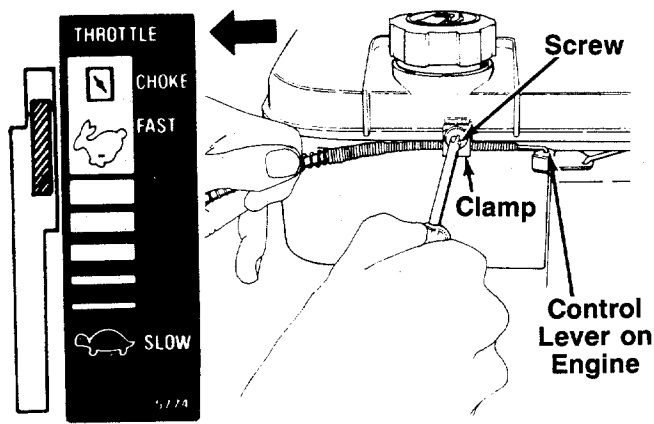

FIGURE 6C.—Models 414R & 424R
1. Push the throttle control lever on the handle all the way forward to CHOKE, then back it off **two "clicks"** (approximately 5/16"). See figure 6C.
2. The throttle control cable is attached to the upper handle. Route the throttle control cable under the lower handle and inside the handle mounting bracket. Hook the "Z" end of the throttle control cable into the hole in the control lever on the engine. See figure 6C.
3. Using a phillips screwdriver, remove the screw on the cable clamp shown in figure 6C. Remove the cable clamp and the plate which is beneath the clamp.
4. Push the control lever on the engine as far toward the rear of the engine as it will go. See figure 6C. Pull the throttle control cable toward the rear of the engine to remove any slack in the cable. Secure the cable to the engine in this position, using the cable clamp, plate and screw removed in step 3 (plate goes beneath the cable).